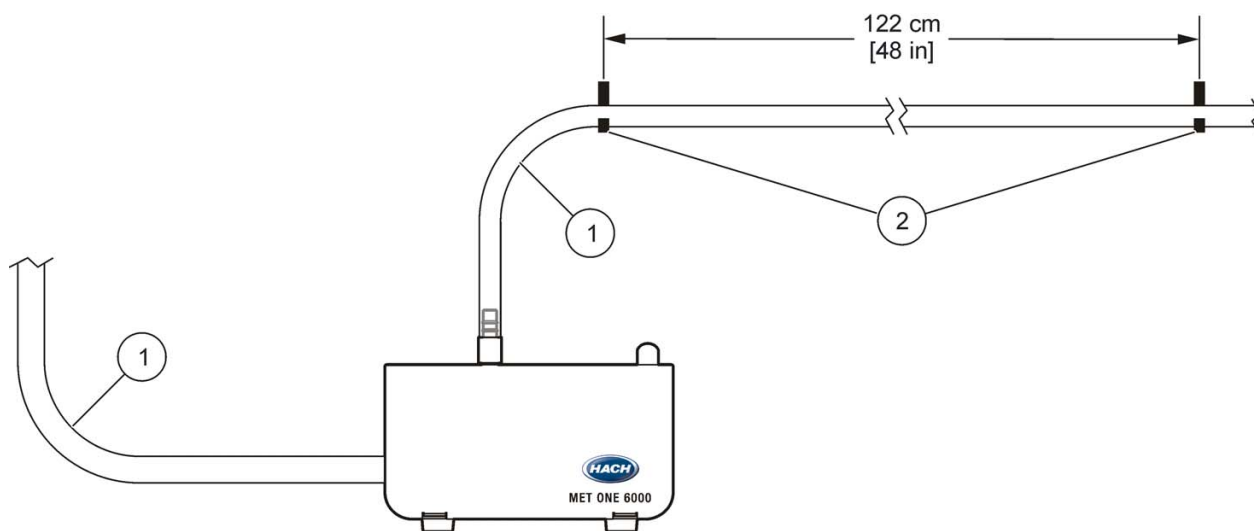

Figure 8 Tubing installation guidelines
4. Support the tubing with hooks or cable ties at intervals that are not more than 4 feet apart. Make sure that the tubing has a minimum bend radius of 4-inches (refer to Figure 8).